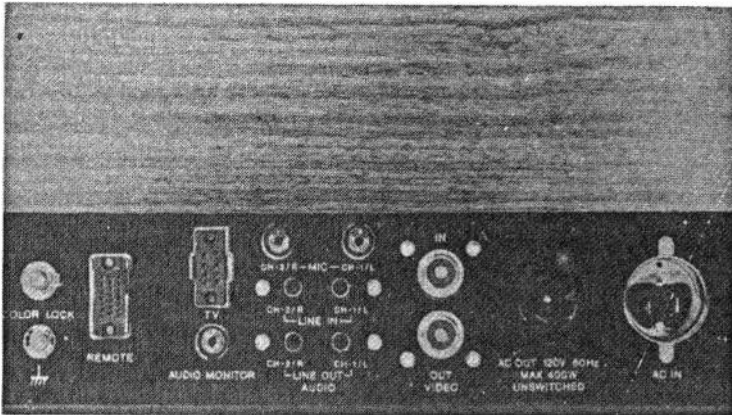

Fig. 2-1. Rear of machine (courtesy of Sony).
The only other connection needed is between the TV antenna terminals and the radio frequency (RF), or very high frequency (VHF), output at the rear of the machine (Fig. 2-1).